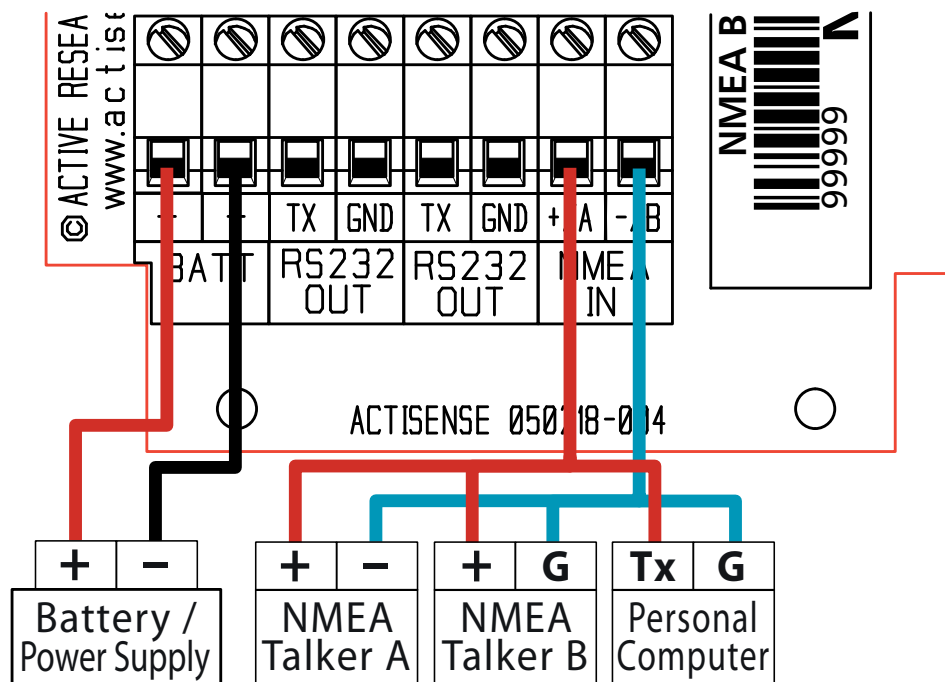

Figure 2 – Input connections
The diagram (figure 2) above shows a typical installation with both fully compliant NMEA devices with differential outputs, and non-differential devices that output NMEA using the ground line as the "NMEA -" line.
**NMEA Talker device A:** This device conforms in full to the NMEA 0183 standard and shares the same connection ID's as the **Actisense™** NBF, so connection is a simple matter of matching ID's (refer to figure 2).